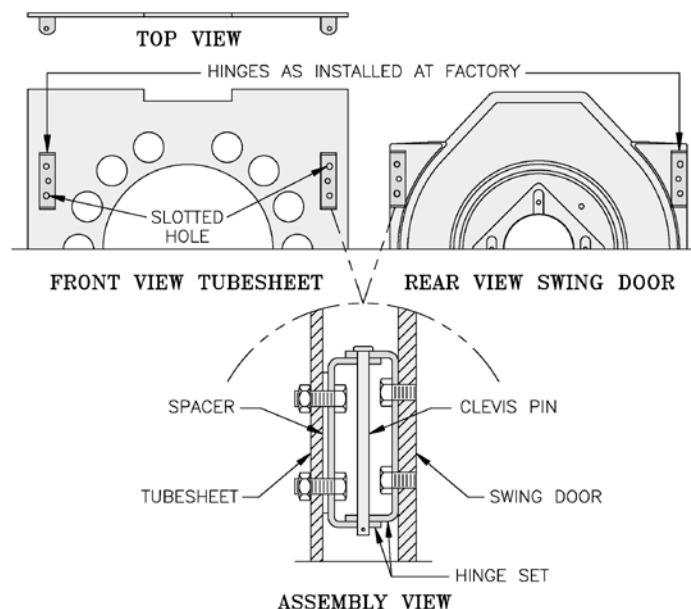

Figure 3: Hinge Installation & Assembly, microTEK3 Boiler
- Attach 2 hinge brackets & spacers to Tubesheet and 2 hinge brackets to Door on right side of boiler. 3 Holes in each Hinge Bracket must line up with 3 matching holes in Spacer, Tubesheet or Door. See Figure 3. Tighten hex nuts, bolts and screws by hand only.
- Replace door assembly. Hinge brackets attached to door must rest on top of hinge brackets attached to tubesheet. See Figure 3. Slide hinge pins through hinges from top and install cotter pins. Close door and install 5/16" - 18 x 3" long hex head cap screws through flatwashers and left side of door and into tapped holes in tubesheet. Tighten all hex nuts, bolts and screws. When door is installed properly, it is parallel to Tubesheet when viewed from top and sides.